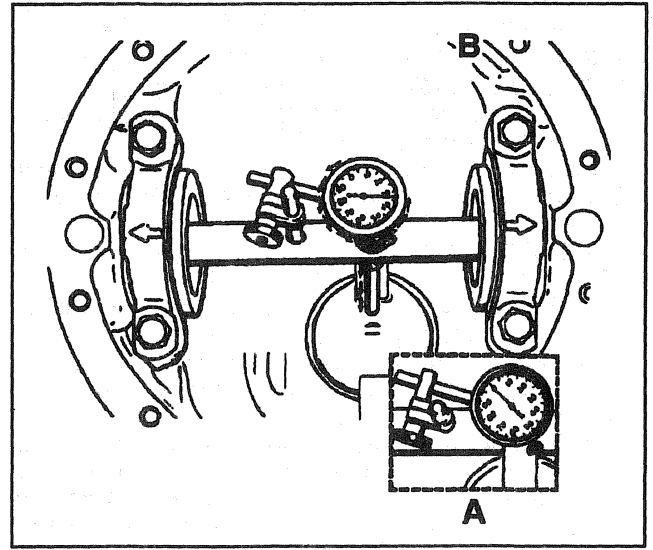

Figure 14—Checking Pinion Depth
16. Record the actual number on the dial indicator and not the number which represents how far the needle travels. This is the nominal pinion setting. **EXAMPLE:** The indicator needle moved counter clockwise 1.70 mm (0.067 inch) to a dial reading of 0.84 mm (0.033 inch) (Figure 14). Record the dial reading of 0.84 mm (0.033 inch), NOT 1.70 mm (0.067 inch).